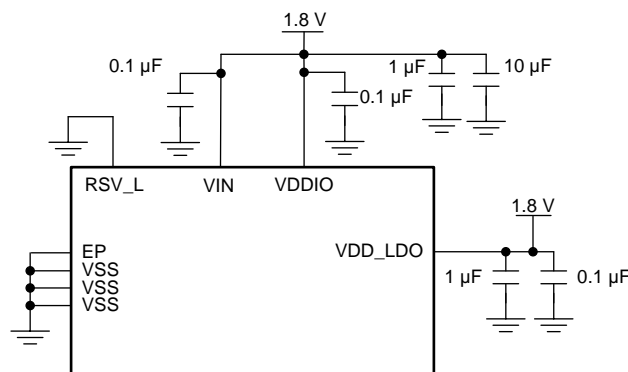

图 25. Single 1.8 V Supply Mode - Not Compatible with LMH1219
- Single 1.8 V Supply Mode:** This mode provides the lowest power consumption. In this mode, 1.8 V is connected to VIN, VDD_LDO and VDDIO. RSV_L is tied to VSS. In this mode, SPI is supported, but SMBus serial interface is not. *In Single 1.8 V Supply Mode, the LMH0324 is not drop-in compatible with the LMH1219.* See 图 25 for more details.